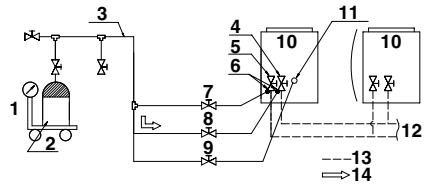

fig. 31
3. Open the valve C (See the figure 31. The valve A, B and the liquid and gas side shutout valve must be left closed), and charge the refrigerant of the “additional charging amount” from the liquid side shutout valve service port. If the “additional charging amount” was charged fully, close the valve C and go to step 5. If the “additional charging amount” was not charged fully, go to step 4.